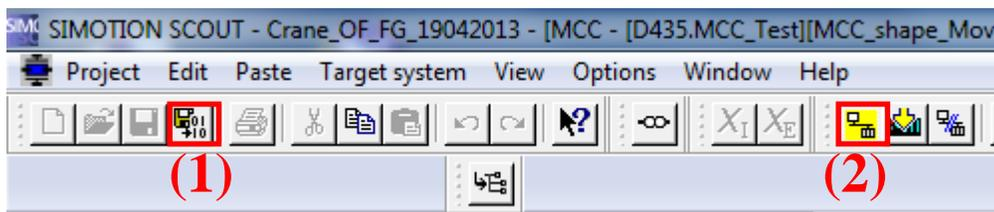

Figure 6: Simotion Scout menu bar
- h. Compile the code using button (1) in Figure 6. Make sure button (2) is depressed. This puts the PLC online with Simotion Scout.
- g. Various variables can be monitored in Simotion Scout by selecting “Global device Variables” and looking at the “symbol browser” located at the bottom of the screen (Figure 11). These variables contain camera measurements, model and plant states, control signal u, and error between the model and plant states. These are there to help you debug. Make sure the system is “online” as shown in Figure 6 to see these values updated in real-time. Alternatively, a watch table called “Y_States_Watch” contains only the most important variables. As shown in Figure 12, the table is accessed under Monitor at the bottom of the Project Tree.